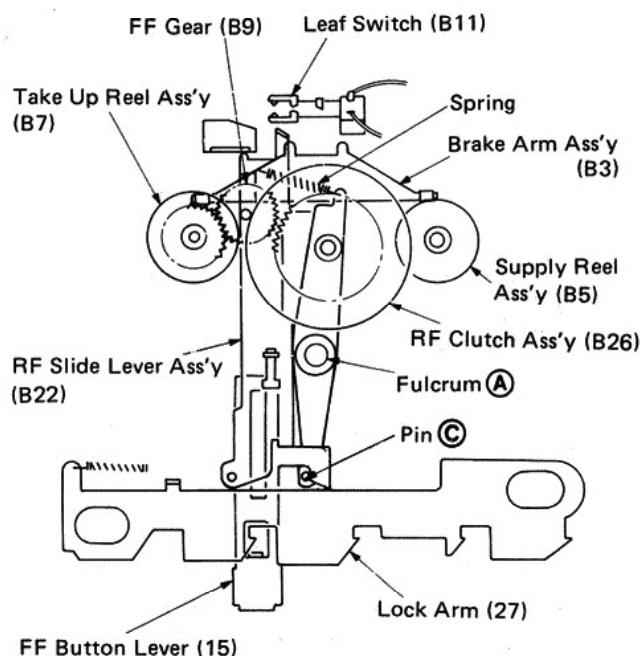

Fig. 19
- Fig. 19 shows the positional relationship of the FF-related mechanism in the stop mode.
- The RF clutch assembly (B26) is pulled by the spring toward the FF gear (B9). However, pin C located on the opposite side is hindered by the FF button lever (15). Therefore the RF clutch assembly (B26) does not operate.
- On the other hand the brake arm assembly (B3) also keeps contact with the take-up reel assembly (B7) and the supply reel assembly (B5). Consequently it is in the braked state. (Fig. 19)